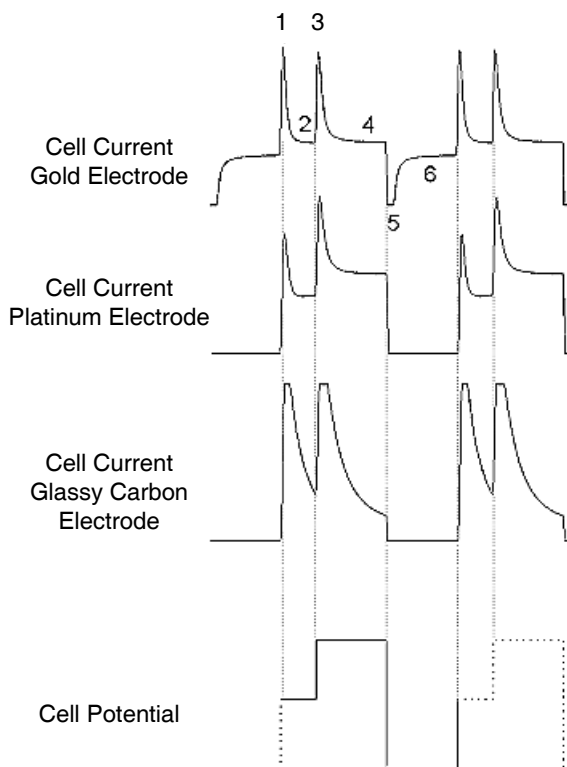

Figure 1-11 Change in Cell Current During PAD
Gold and platinum are used as working electrodes for pulse mode. The change in cell current during pulse mode is illustrated in Figure 1-11 for gold (Au), platinum (Pt), and glassy carbon (GC) working electrodes. When the potential is changed, a large charging current is detected (Figure 1-11, parts 1, 3, and 5), followed by stabilization of the current (parts 2, 4, and 6). The output signal is sampled during a fraction of part 2, depending on the pulse settings.